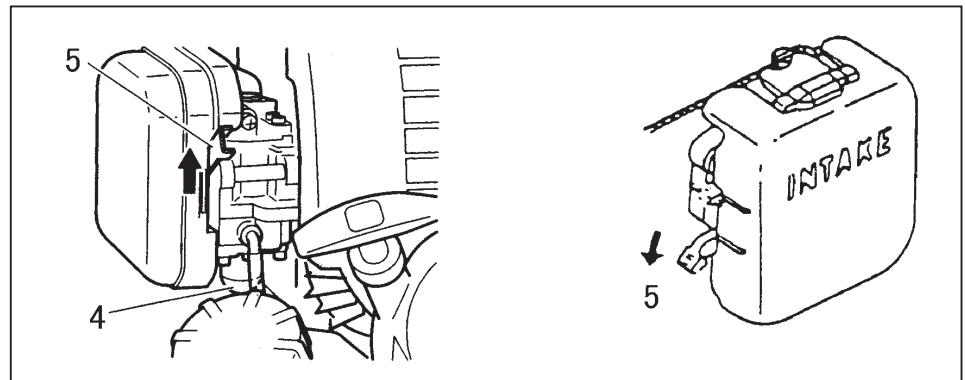

Fig. 2-3
- \* Push priming bulb (4) several times so that fuel flows through return pipe. (If so equipped) (Fig. 2-3)
2. With the safety trigger (2) pressed (if so equipped), pull throttle trigger and push throttle lock (3), then slowly release the throttle trigger first, then the safety trigger. This will lock the throttle in starting position.
3. Set choke lever to CLOSED position (5). (Fig. 2-3)